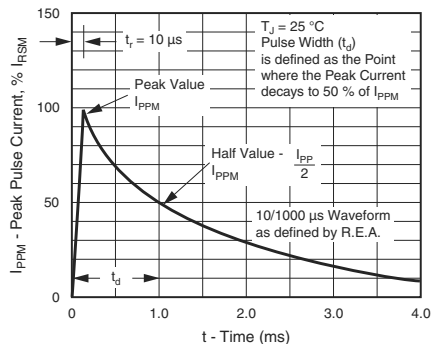
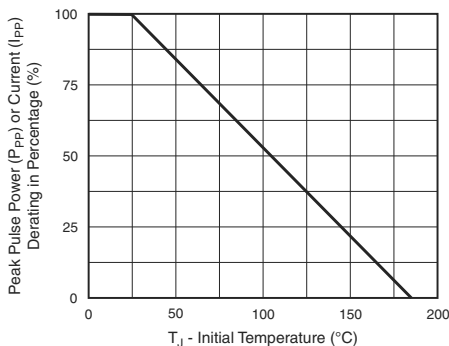

Figure 3. Pulse Waveform
Figure 2. Pulse Power or Current vs. Initial Junction Temperature
- (1) VBR measured after IT applied for 300 µs, IT = square wave pulse or equivalent
- (2) Surge current waveform per fig. 3 and derated per fig. 2
- (3) All terms and symbols are consistent with ANSI/IEEE C62.35